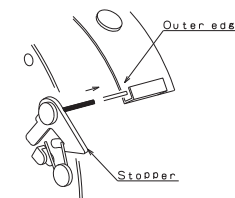

Fig.7
- ・ When installing Plate assembly on Drum , place Stopper in the outer edge of Spring. (See Fig.7)